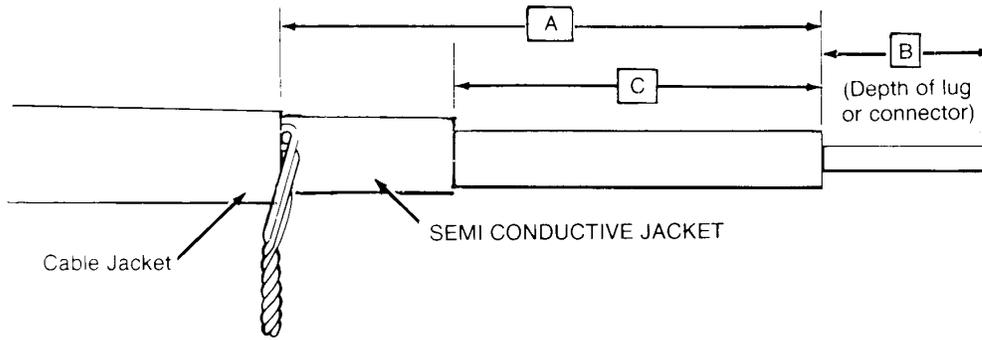

Figure 1a (JCN Cable)
2. For JCN cable remove cable jacket at a distance of A plus depth of lug or terminal B. See Figure 1a and Dimension Table below.
4. Remove semi-conductive jacket for a distance of C plus B. See Figure 1a, 1b and Dimension Table.